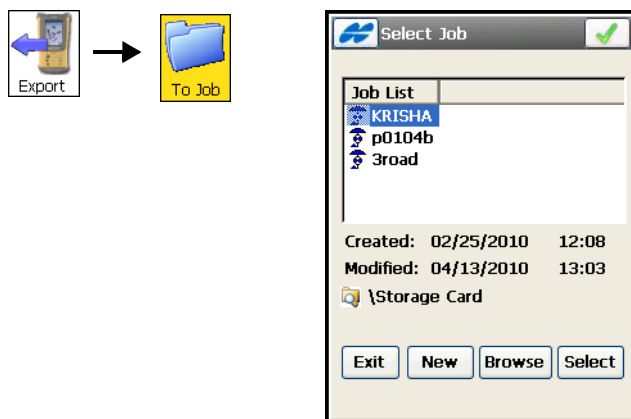

Figure 5-19. Select Job
1. Select the **Export ► To Job** icons. On the **Select Job** screen, highlight the destination job to export to and tap **Select**. If there is no job in the Job List that you want, press the **Browse** button to select a job from the disk (Figure 5-19).